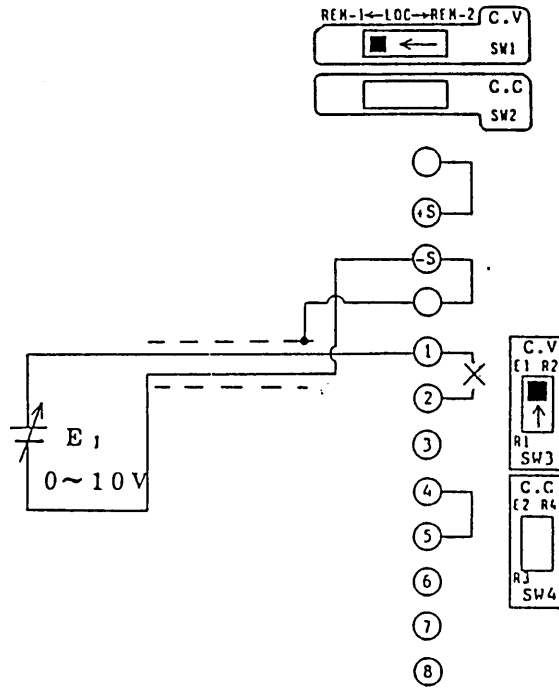

Figure 4-4
- (1) Turn off the POWER switch.
- (2) Disconnect the jumper from between terminals ① and ② of the rear terminal block.
- (3) Throw the SW1 switch on the rear panel to REM-1.
- (4) Throw the SW3 switch on the rear panel to E1.
- (5) Connect the remote control voltage signal (E1) to between terminals ⊕ and ①, with terminal ① for the positive polarity line.
- (6) Turn on the POWER switch. (Turn on the OUTPUT switch.)
- (7) Adjust offset(at zero volts)with the V.os control of the service panel.
- (8) Regarding the switches for which no settings are specified in Figure 4-4, set them to the standard states as shown in Figure 2-23 (See Section 2.4.) or to appropriate states for respective modes (See Sections 4.1 through 4.11.).